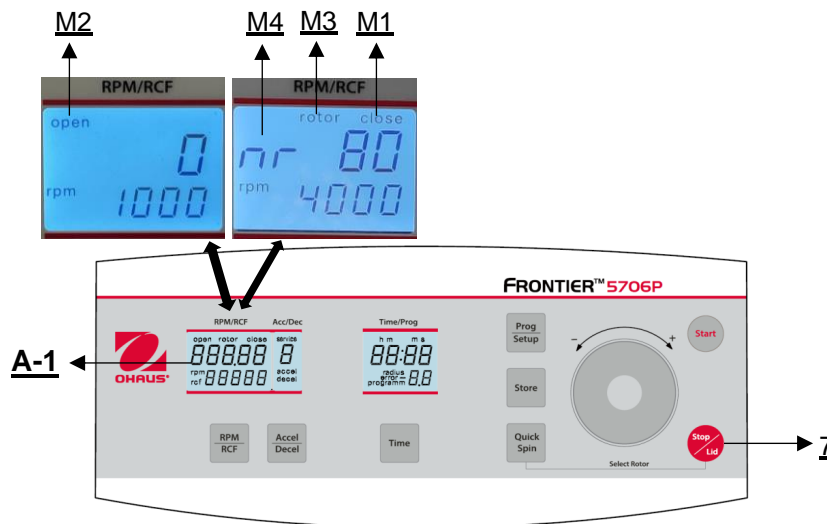

Figure 16
After the run, when the lid of the centrifuge remains closed, the word "**close**" (M1) will continued to appear in the display "**RPM | RCF**" (A-1). At the same time the actual rotor ID, e.g. "**nr 80**", is shown in the display (M4). As soon as the lid is released by pressing the key "**Stop | Lid**" (7), the word "**open**" (M2) appears. Now you can open the lid of the centrifuge. Please refer to **Figure 16** below for reference.
Please refer to **Figure 16** below for reference.